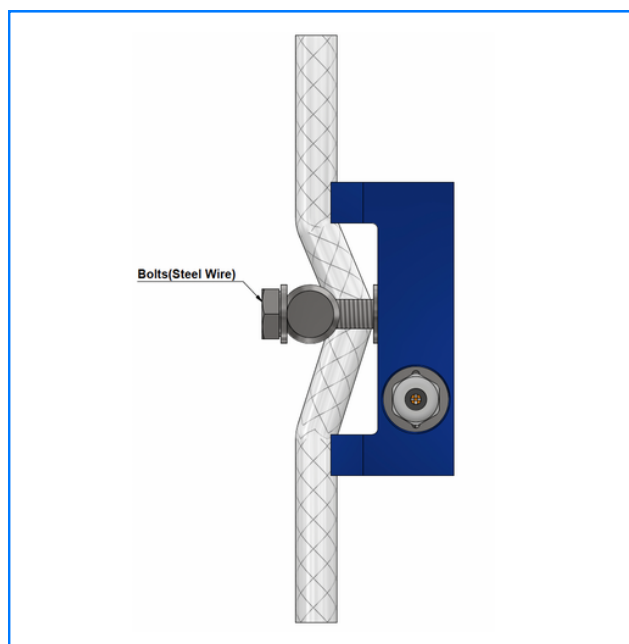

Figure 2
2. Tighten the Bolts (Steel Wire) until the Steel Wire touches the Wire Plate, as illustrated in figure 2.